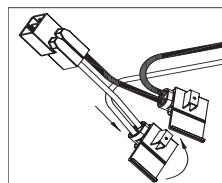

Figure 2
- 4 Remove orange plug from the hardwire kit bag. Pair the wires by color. Insert both into the red connector. Squeeze the metal U shaped fastener firmly. Flip the cover over to insulate the connection (See Figure 2).